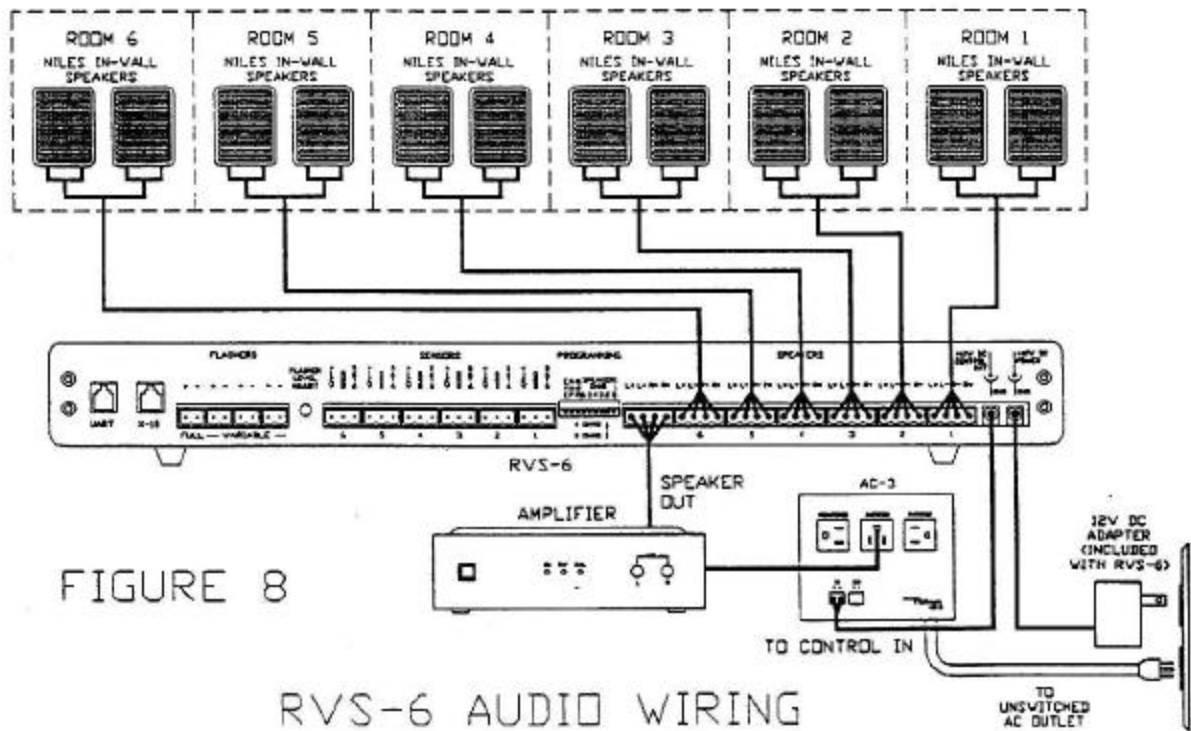

FIGURE 8
2. Align the "learning end" (sensor input) of the learning remote directly in front of the RVS-6's teaching IR flasher. Make sure they are no further than three inches away (see Figure 8 on Page 14).